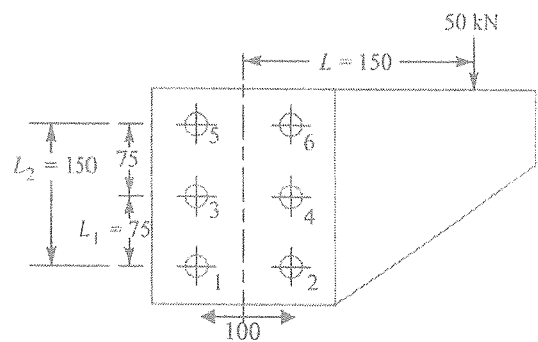

Figure Q4
- b) A bracket is bolted to a steel column by six bolts of equal size as shown in Figure Q4. With the aid of a sketch, explain the forces acting on each bolt and determine the most stressed out bolt.
- c) The bracket in Figure Q4 carries a load of 50 kN at a distance of 150 mm from the centre of column. If the maximum stress in the bolts is to be limited to 150 MPa, determine the diameter of a bolt.